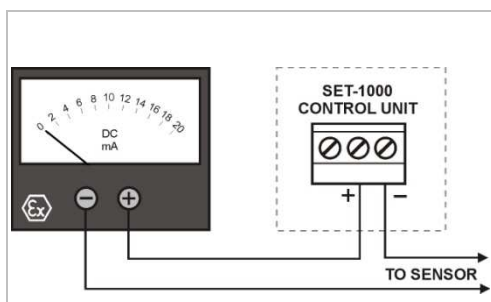

Figure 10. Sensor current measurement
- 3.3 Connect mA-meter as in figure 10.